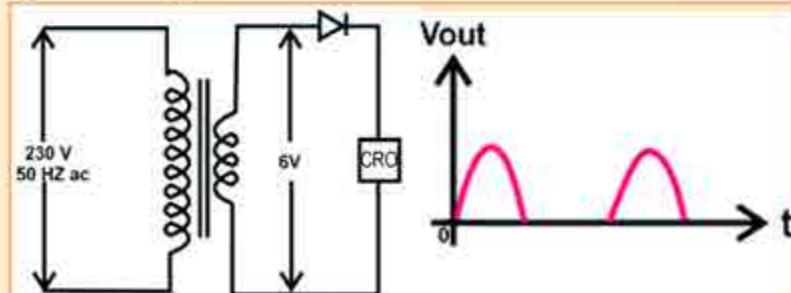

Fig 7.3
- Connect a diode and a resistor as shown in Fig 7.3 in series with the above circuit and observe its output waveform. What difference do you observe? What does the diode do?